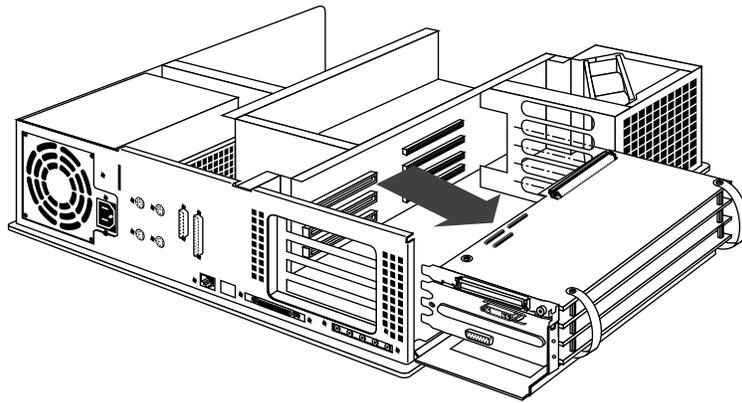

Figure 2-2 Removing the Board Set From the Chassis
7. Remove the board set from the chassis, as shown in Figure 2-2. Depending on which graphics your system has, it is either a two, three, or four-board set. The top board is the Presenter board.